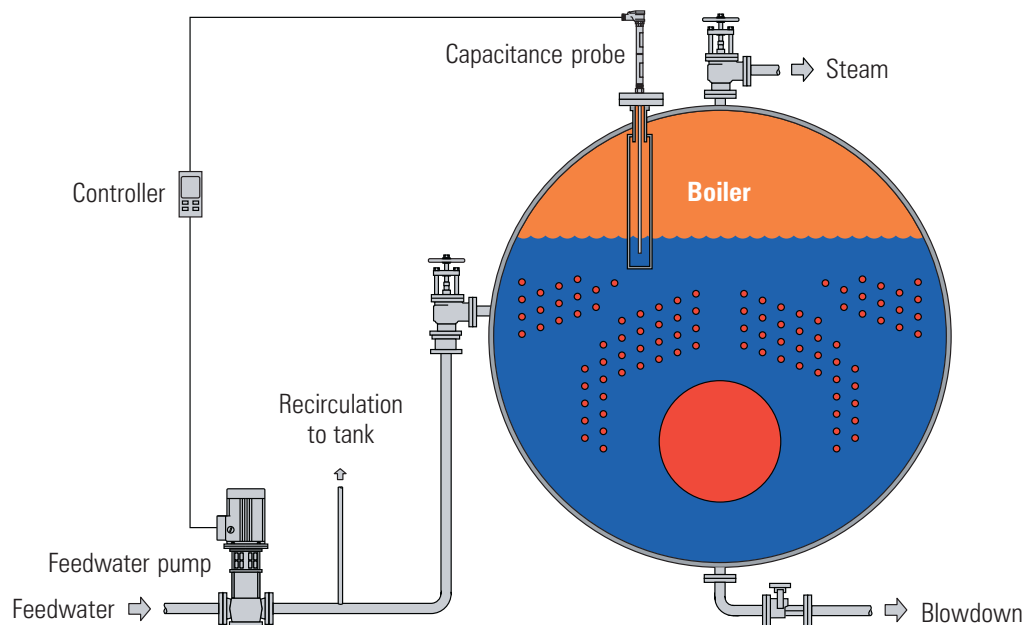

Fig. 3.17.5 Variable speed drive of a boiler water feedpump, with spill-back
- **With recirculation** - When demand is satisfied and the motor speed is reduced to its minimum, and some recirculation of feedwater to the feedtank is still required to avoid the pump overheating (see Figure 3.17.5).